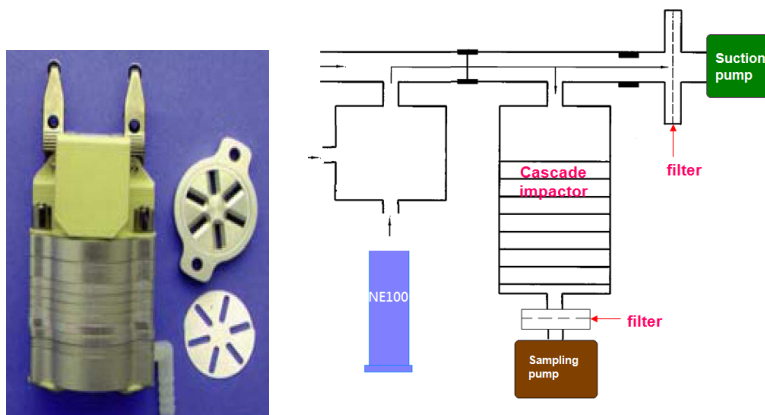

Fig 2. Cascade Impactor and Testing setup
- 4.2.3 Connect suction and sampling pumps to the cascade impactor testing module as see in the Fig 2.
- 4.2.4 Connect the nebulizer kit with NE100 and connect the nebulizer kit outlet to cascade impactor inlet.(Fig 2.)